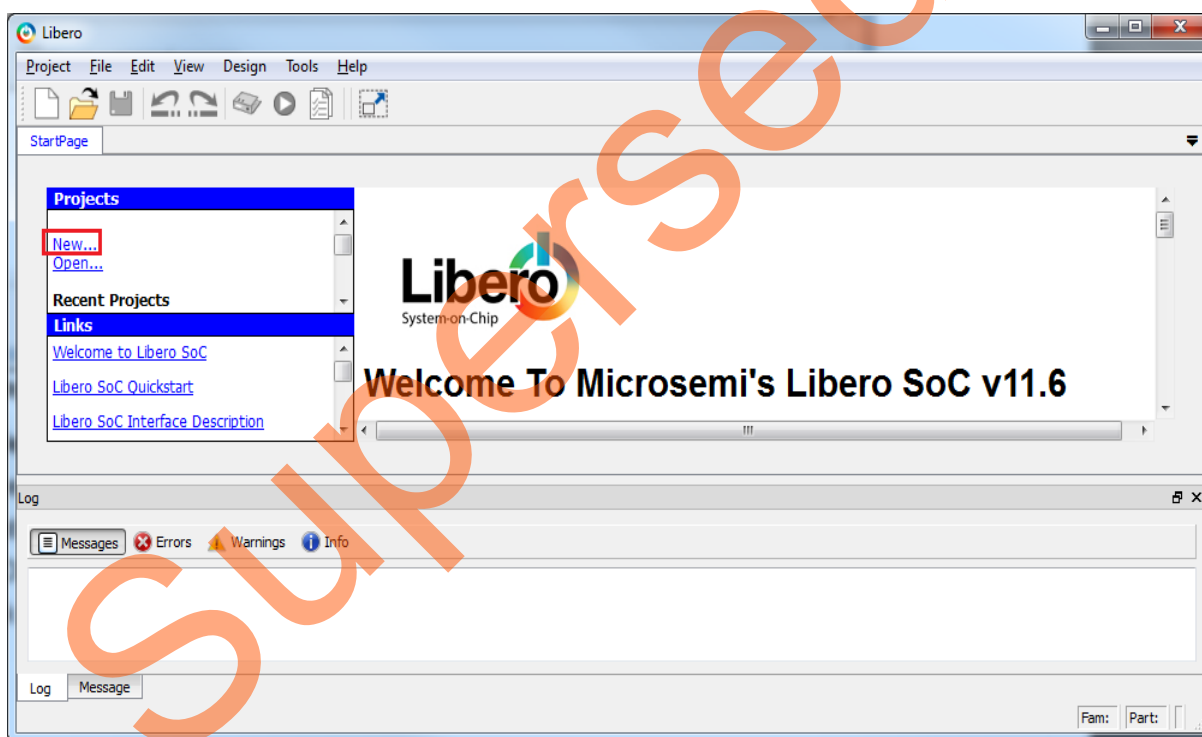

Figure 1 • Libero SoC Project Manager
2. Create a new project by selecting **New** on the **Start Page** tab (highlighted in Figure 1), or by clicking **Project > New Project** from the Libero SoC menu.